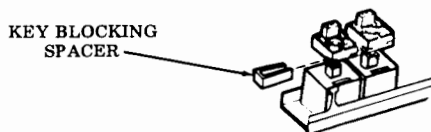

Fig. 11—Blocking Spacer Removal
- Slide spacer to the left as far as it will go and then pull to the rear (Fig. 11).